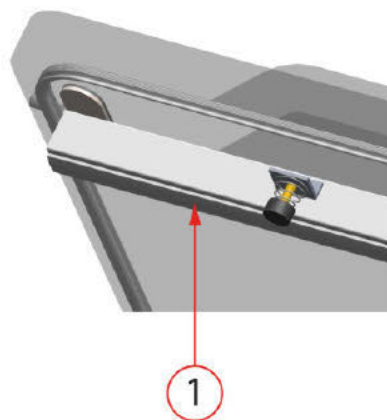

Figure 7: Replacing the Silicone Rubber of the Silicone Holders
1. Pull the old silicone rubber from the holder, see *Figure 7: Replacing the Silicone Rubber of the Silicone Holders* on page 53.